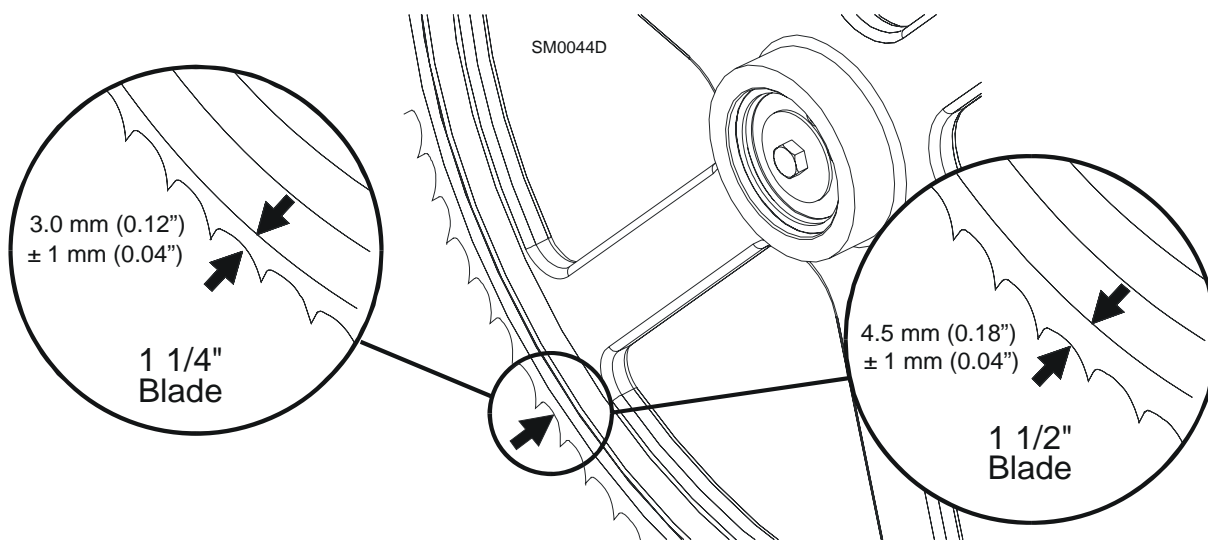

FIG. 5-2
**See Figure 5-2.** The blade wheels should be adjusted so that the gullet of 1 1/4" blades rides 3.0 mm (0.12") out from the front edge of the wheels ( $\pm 1.0$  mm [0.04"]). The gullet of 1 1/2" blades should